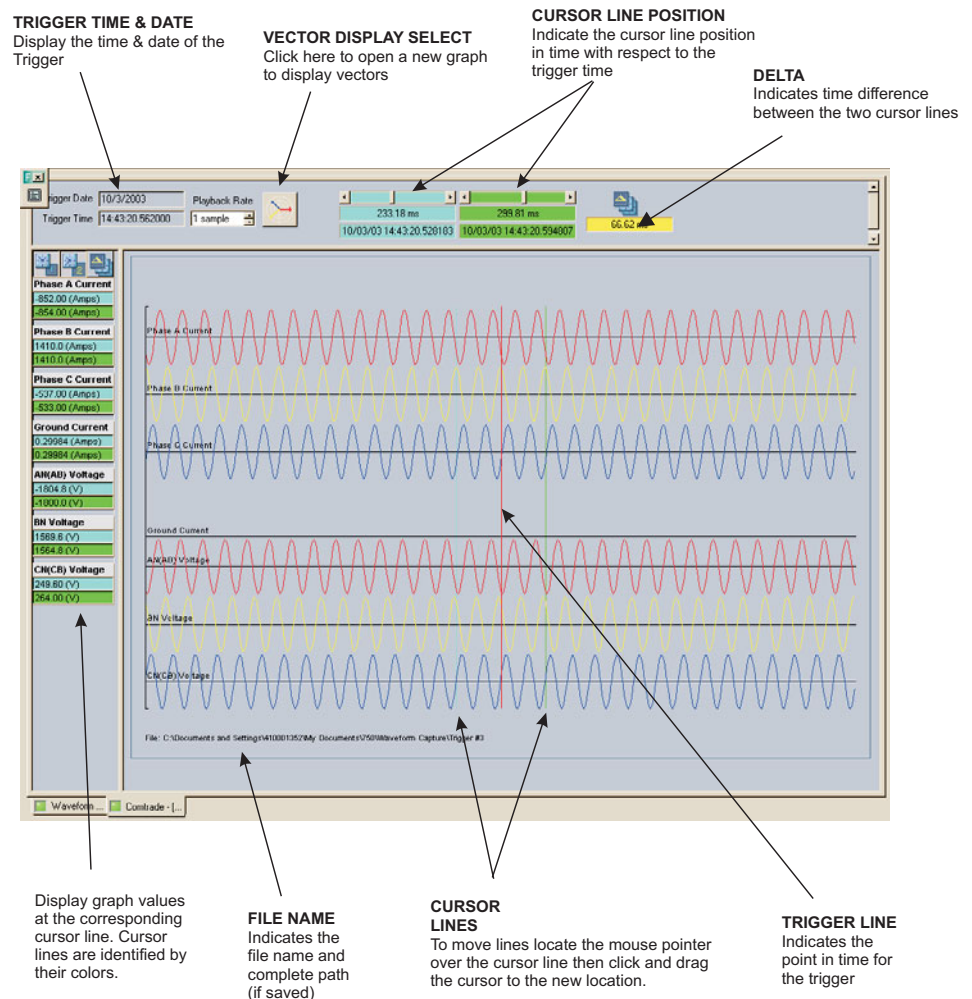

FIGURE 4-7: Waveform Capture Window Attributes
11. To view a vector graph of the quantities contained in the waveform capture, press the Vector display button (see FIGURE 4-7: *Waveform Capture Window Attributes* on page 4-33) to display the following window: